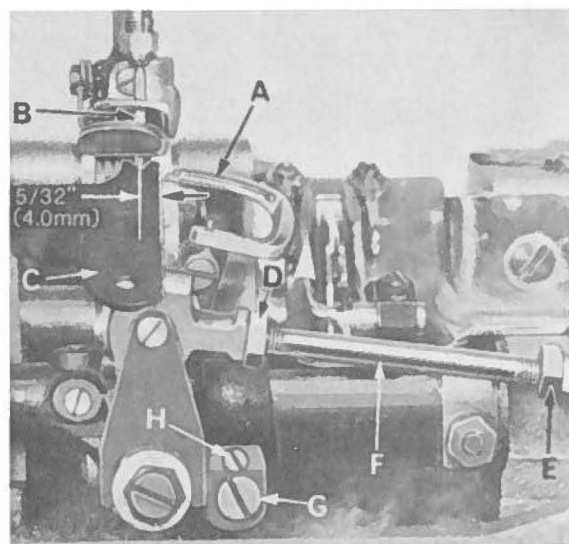
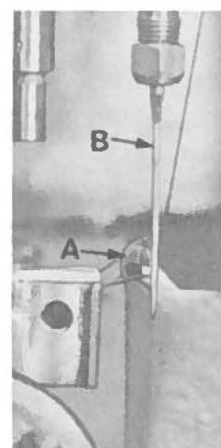

Fig. 6
Fig. 7
Insert a new needle, type and size specified. Looper gauge is 5/32 inch (4.0mm) which is the distance from point of looper (A, Fig. 6) to centerline of needle (B) when looper is at extreme right end of its travel. Looper gauge No. 21225-5/32 (C) is available for this setting. Adjustment can be made by loosening nut (D), (it has a left hand thread) and nut (E); turn connecting rod (F) as required to attain specified dimension. Hold connecting rod in position and tighten nut (E), then nut (D). NOTE: Be sure that the left ball joint is in a vertical position and does not bind after adjustment.
While turning handwheel in operating direction and the looper (A, Fig. 7) moves to the left, its point should be set to brush but not pick at rear of needle (B). Adjustment can be made by loosening screw (G, Fig. 6), turn stop screw (H) clockwise to move looper towards the rear, counterclockwise acts the reverse. It is suggested to hold looper towards the front while making this adjustment. Tighten screw (G) after adjustment has been made and recheck movement of looper.